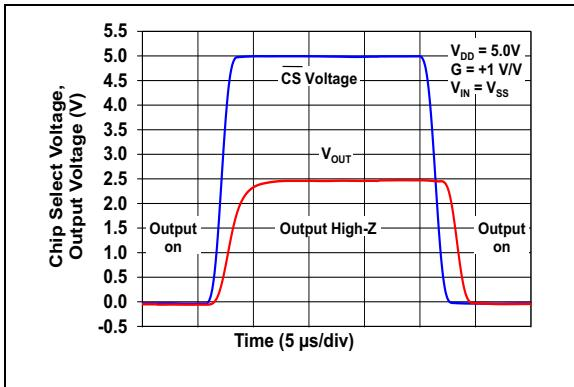

FIGURE 2-39: Chip Select (\overline{CS}) to Amplifier Output Response Time (MCP6023 Only).
4.5 MCP6023 Chip Select (CS)
The MCP6023 is a single amplifier with Chip Select (CS). When CS is pulled high, the supply current drops to 10 nA (typical) and flows through the CS pin to V_{SS} . When this happens, the amplifier output is put into a high-impedance state. By pulling CS low, the amplifier is enabled. The CS pin has an internal 5 MΩ (typical) pull-down resistor connected to V_{SS} , so it will go low if the CS pin is left floating. Figure 1-1 and Figure 2-39 show the output voltage and supply current response to a CS pulse.